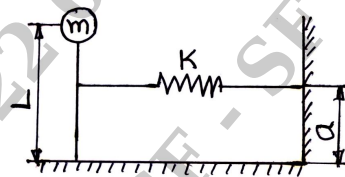

Fig.Q8(a)
- 8 a. Determine the Natural frequency of the system shown in Fig.Q8(a).